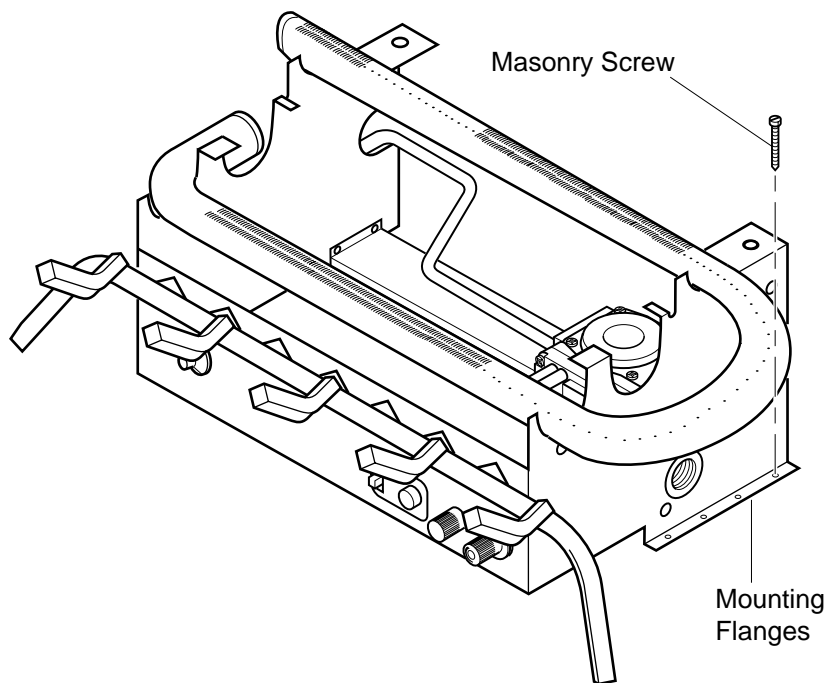

Figure 11 - Attaching Base Assembly to Fireplace Floor
4. Mark screw locations through holes in mounting flanges (see Figure 11, page 14). If installing in a brick-bottom fireplace, mark screw locations in mortar joint of bricks.
7. Attach base assembly to fireplace floor using two masonry screws (in hardware package) (see Figure 11, page 14).